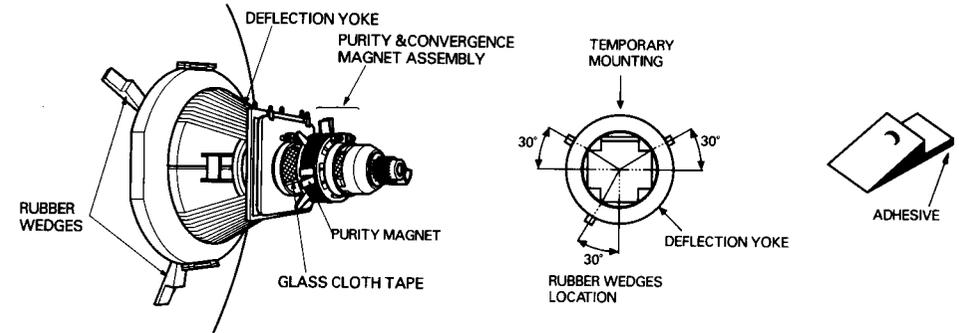

Figure 16
CAUTION: Convergence and Purity have been factory aligned. Do not attempt to tamper with these alignments. However, the effects of adjacent receiver components, or replacement of picture tube or deflection yoke may require the need to readjust purity and convergence. Convergence magnet assembly and rubber wedges need mechanical positioning following the figure 16. Before attempting any convergence adjustments this receiver should be operated for at least fifteen minutes. If adjustment is required the adjustments should be made in the following sequence.
2. Adjust DY to obtain a better convergence in the circumference by orbital movement of the front of the yoke, then secure the DY in appropriate position by placing the wedges as illustrates in figure 18. Tighten screw holding the DY. Stick 3 adhesive tapes on wedges as shown in figure 16.